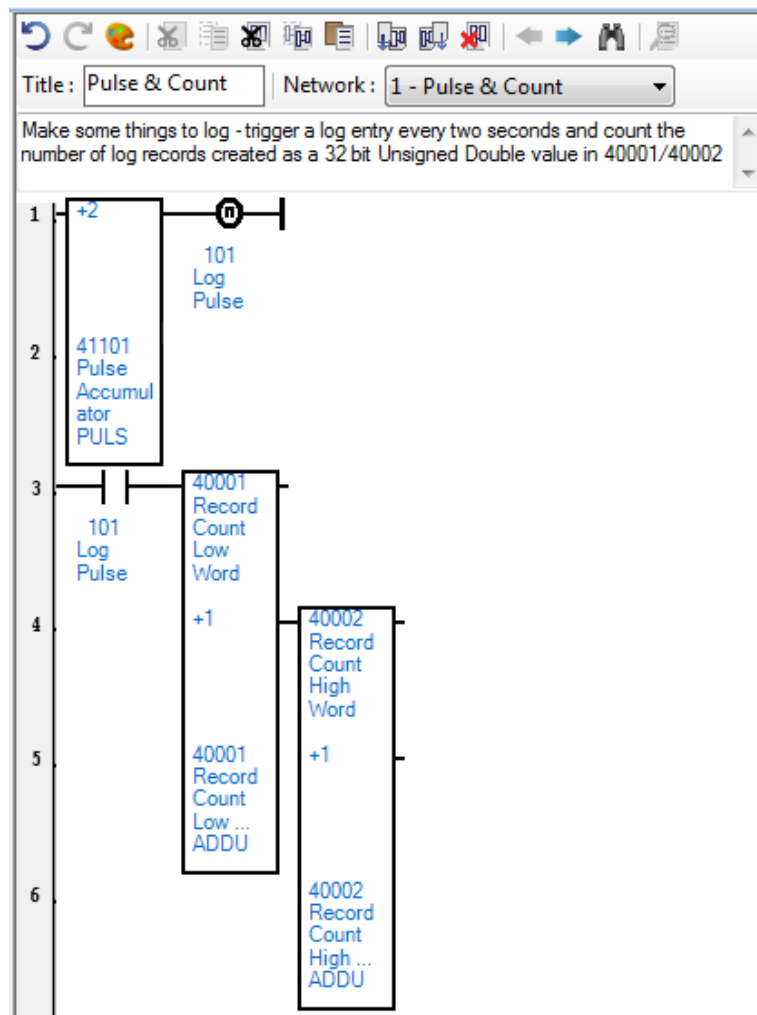
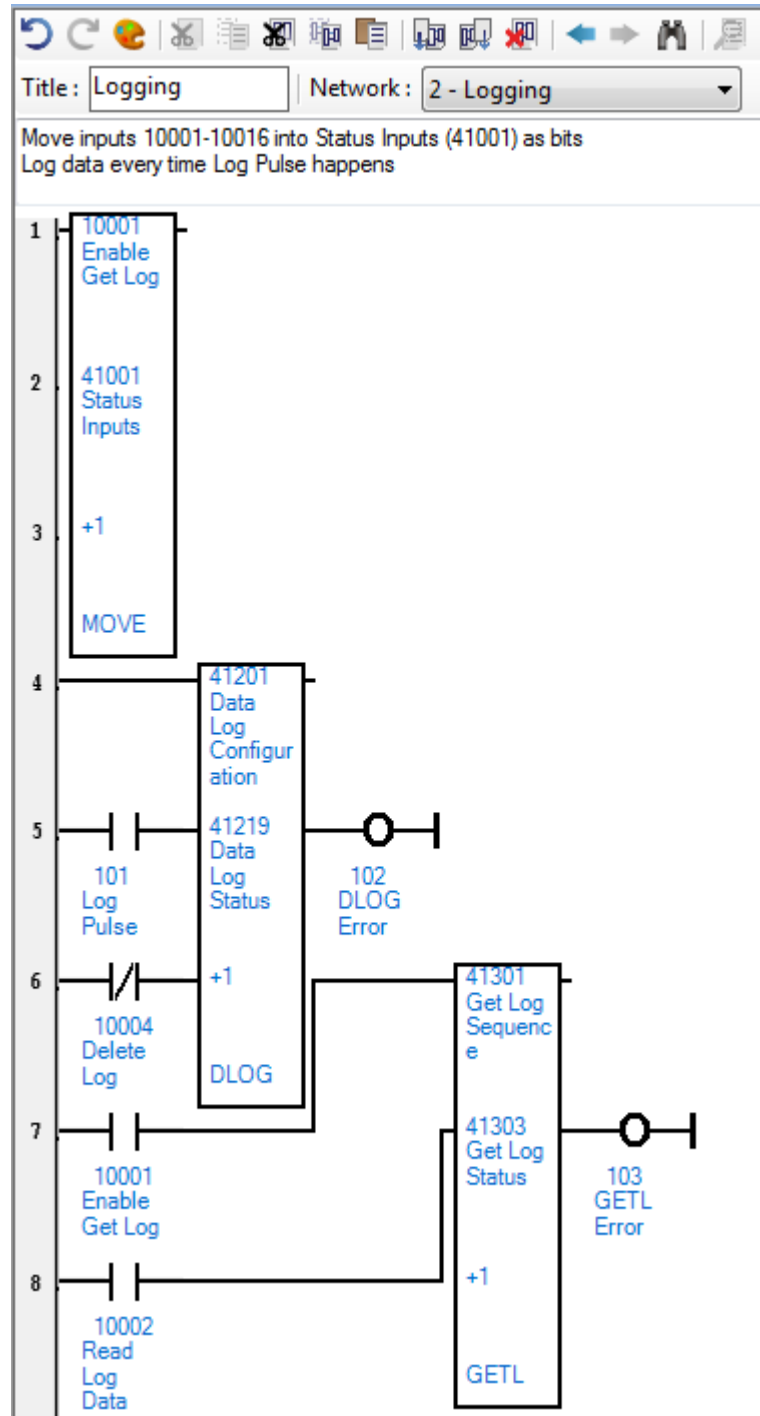

Figure 54: Ladder logic for DLOG – Network1
Figure 55: Ladder Logic for DLOG – Network2
- Enter the ladder logic as shown in Figure 54 (Network1) and Figure 55 (Network2).